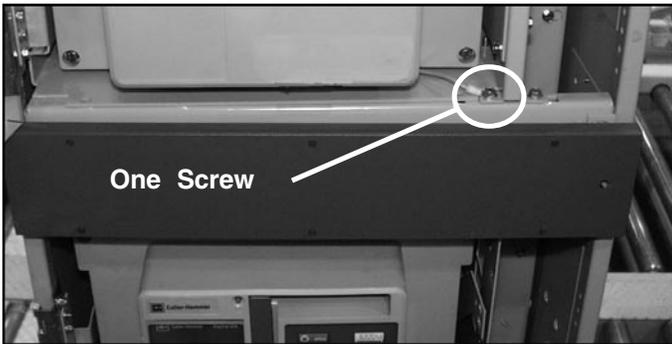

Figure 3-5.1
Step 1. Remove the ground wire by disconnecting the ground screw from the front post as shown in Figure 3-5.1.